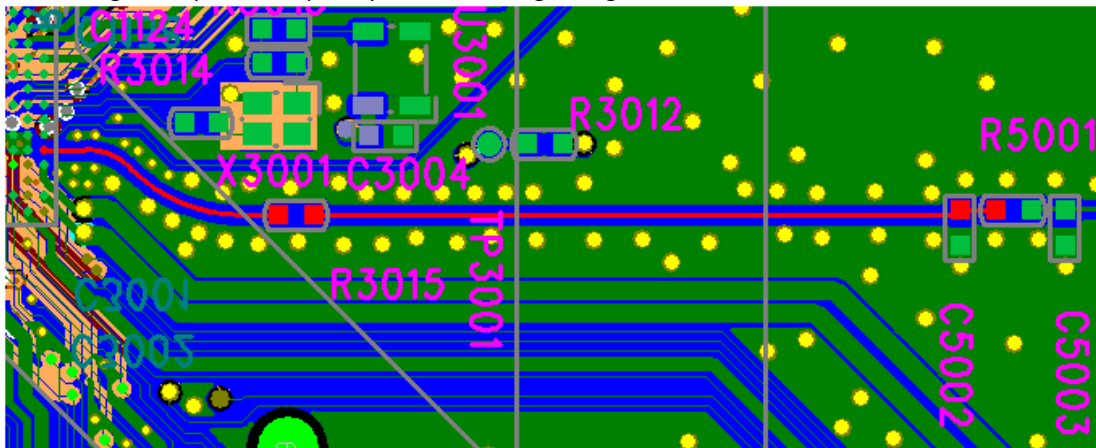

Figure 18. RF trace reference on the ground plane on Layer 2
- 6) The line width and ground layer reference for RF traces should be kept close to 50Ω line for better impedance control. All RF traces should be connected to single complete ground plane to preserve better signal quality. The RF trace cannot overlap with the crystal oscillator's signal, 26 MHz clock signal and other digital signal traces. The RF trace is routed to Layer 1, as shown in Figure 18. The Layer 2 is the